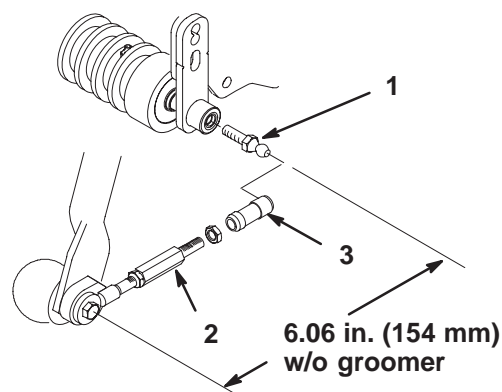

Figure 13
6. Slide the sleeve back on each ball joint receiver and hook the receiver onto the cutting unit ball stud (Fig. 13).
Note: The pull link assemblies are preset at the factory. If they ever need to be disassembled, reassemble them to the dimensions shown in Figure 13.